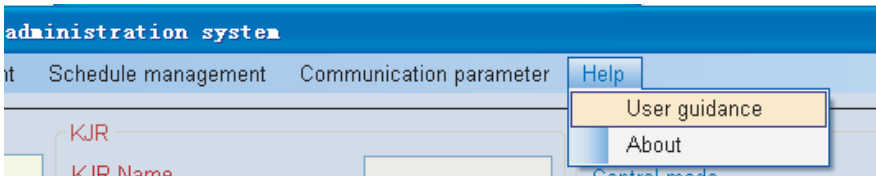

Fig.4-62
5) “Help” includes: “User guidance” and “About”. See Fig. 4-62